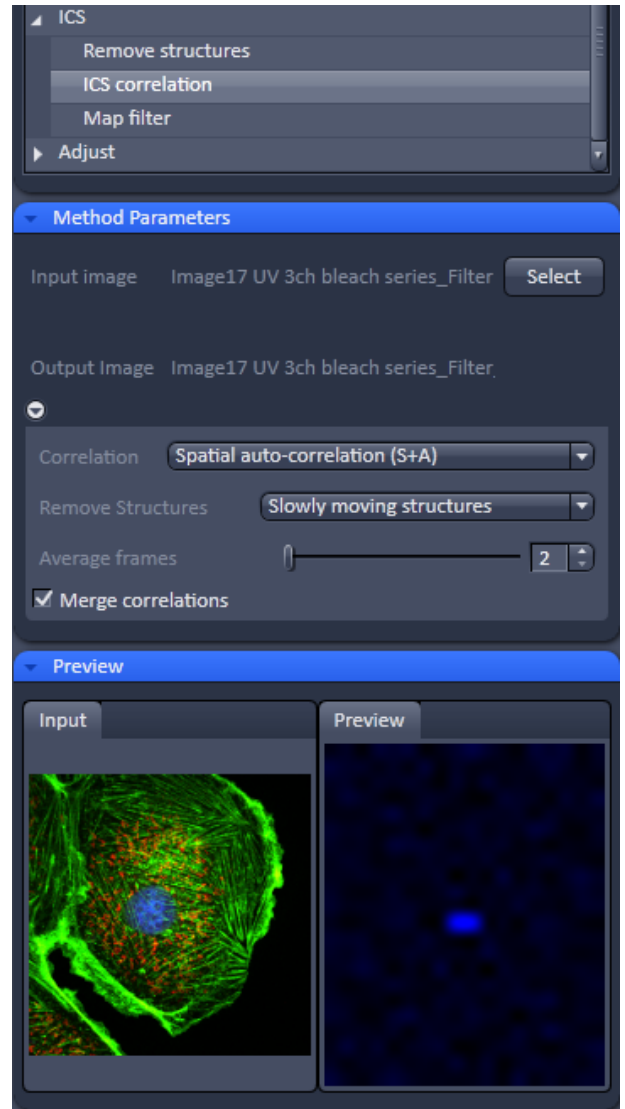

Fig. 431 Processing – ICS correlation
- Activate **ICS correlation** in the **ICS** tool. The **ICS correlation** menu will appear (Fig. 431).